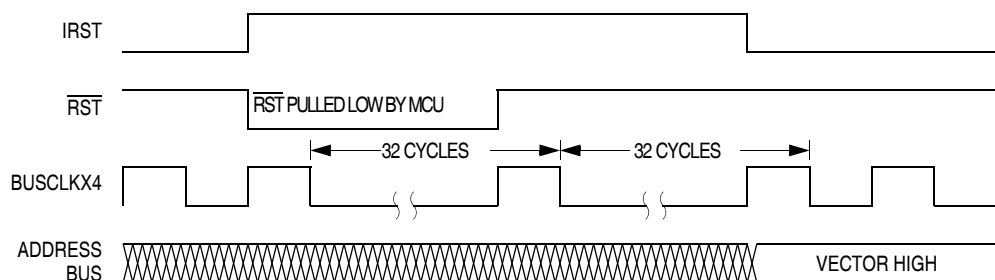
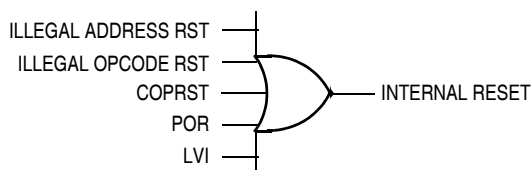

Figure 13-4. Internal Reset Timing
Figure 13-5. Sources of Internal Reset
*For POR and LVI resets, the SIM cycles through 4096 BUSCLKX4 cycles during which the SIM forces the  $\overline{\text{RST}}$  pin low. The internal reset signal then follows the sequence from the falling edge of  $\overline{\text{RST}}$  shown in Figure 13-4.*
All internal reset sources actively pull the  $\overline{\text{RST}}$  pin low for 32 BUSCLKX4 cycles to allow resetting of external peripherals. The internal reset signal  $\overline{\text{IRST}}$  continues to be asserted for an additional 32 cycles (see Figure 13-4). An internal reset can be caused by an illegal address, illegal opcode, COP time out, LVI, or POR (see Figure 13-5).